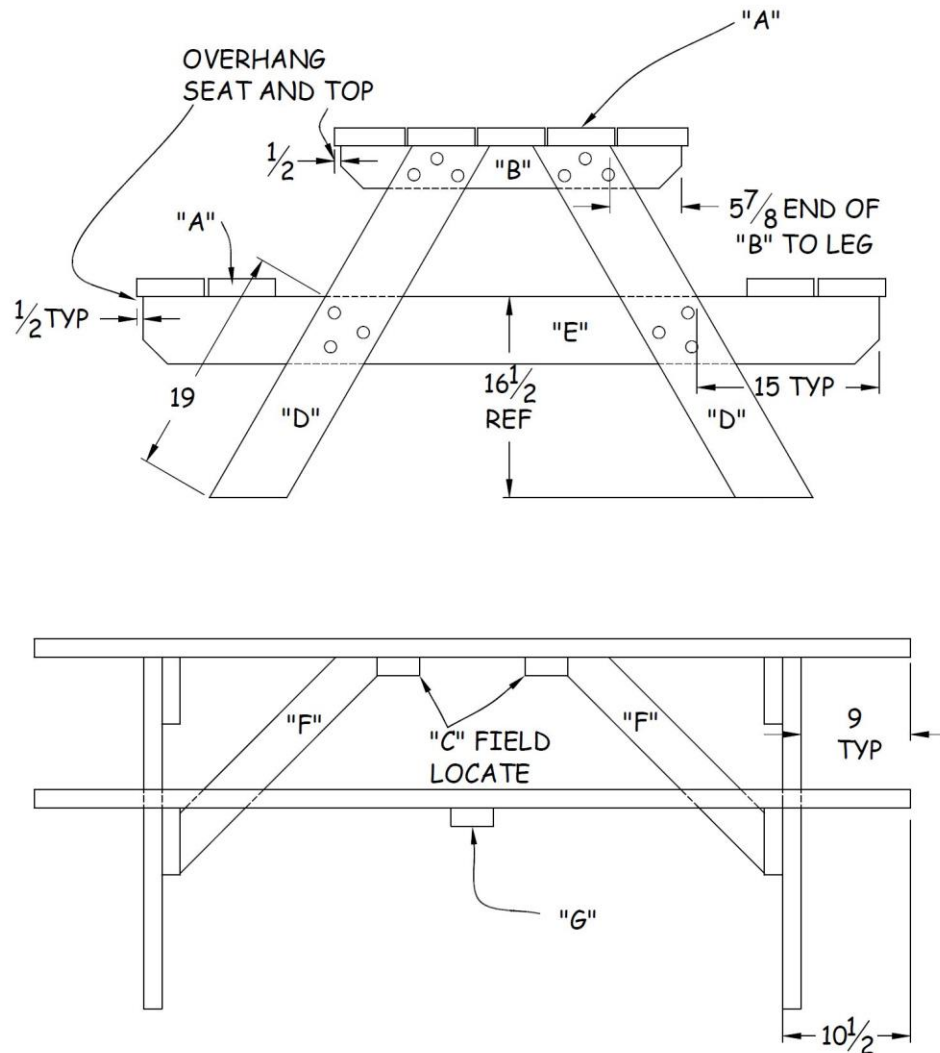

Figure 24-2. Picnic Table Assembly.
4. To build one leg assembly, place one Component “B” and one Component “E” parallel to each other on a flat surface. Lay a pair of legs (Component “D”) on top of the first two components so they approximate the arrangement in Figure 24-2. Place scrap 2x support blocks under the four intersection points.
5. Position the legs so they are inside the 6” marks on Component “B” and the cut angles of the legs are flush with the top of Component “B” (see Figure 24-2). Drill three 11/32” holes through each Component “D” into Component “B” at least 1” from the edges (to avoid component failure). Insert one 3½” carriage bolt into each of the six holes (to anchor the three pieces into position).
4. Drill two ⅛” pilot holes through the seat into each bench support, about 1” in from each edge of the seat. Attach the seat to the bench supports using 2½” exterior screws at each anchor point (see Figure 24-2).
1. Position the tabletop pieces (Component “A”) centered on top the bench leg assemblies so that each end of a tabletop piece is 9” from the outside face of its associated Component “D”. Position the outside two tabletop pieces so they each extend $\frac{1}{2}$ ” beyond the ends of both Component B pieces. Space the interior three tabletop pieces so the gaps between the boards are equal and the table top is evenly distributed across the top of the Component “B” pieces (see Figure 24-2).
3. Attach an angle support (Component “F”) to the center of Component “E” on one leg assembly using two $2\frac{1}{2}$ ” **exterior** screws. Make sure the double-notched end is positioned up, flush to the underside of the table top, and located in the center of the table. See Figure 24-2 for proper location of pieces.